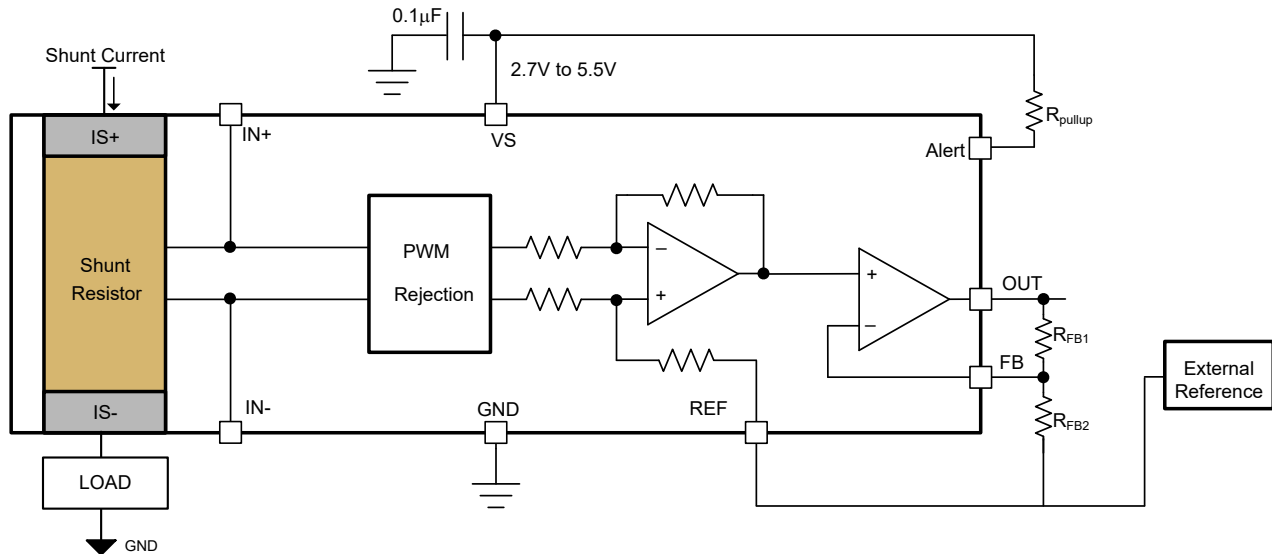

Figure 6-8. Adjustable Gain Setting With External Resistor Divider
The INA750x-Q1 features adjustable gain with two external resistor network. The default gain is 40mV/A, and with added external adjustable gain resistor network, total gain (G) can range up to 800mV/A. Figure 6-8 shows two external resistors  $R_{FB1}$  and  $R_{FB2}$  configured for added external gain. Equation 2 can be used for calculating external adjustable gain and Equation 3 shows the total gain of the system with external adjustable gain. The REF pin and one end of resistor  $R_{FB2}$  is connected to external reference based on needed voltage at OUT pin as described in Adjusting the Output With the Reference Pin.